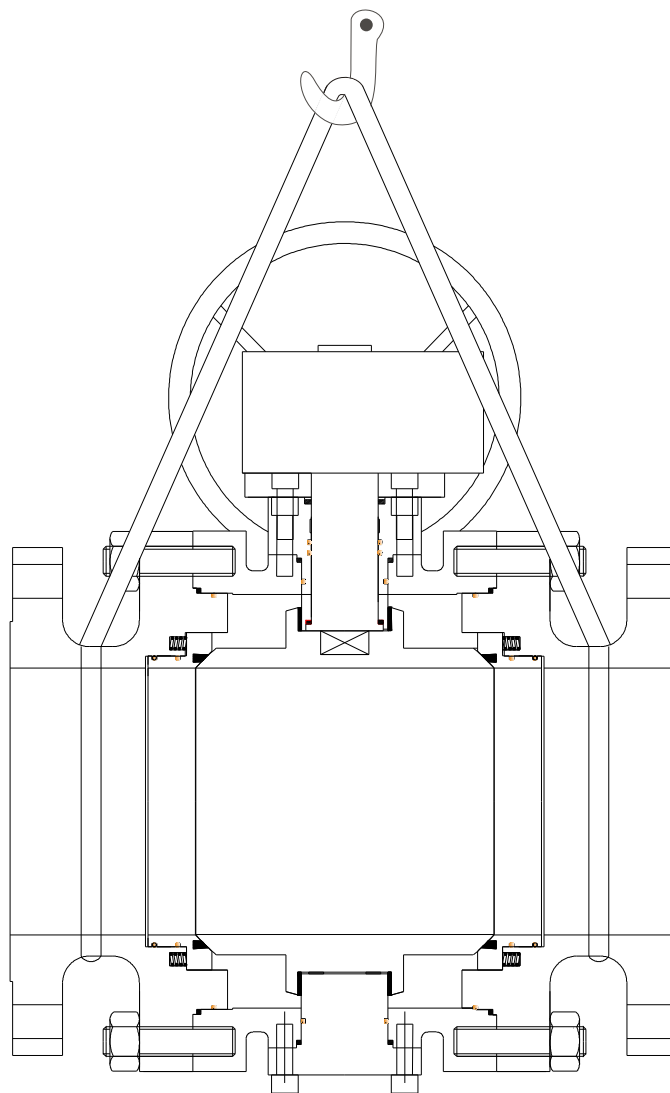

Fig. 1
Lift the valve properly as shown in figure 1
the valve body as shown in figure 1.
3. Insert 'O' Ball in Valve Body with respect to shaft position & Thrust Washer should inside it with respect to position (as shown in figure1).
17. Insert Seat Ring seating is a set of 2 'O' Rings, Seat Retainer, Soft Facing) in side connection properly refer. Fig.1